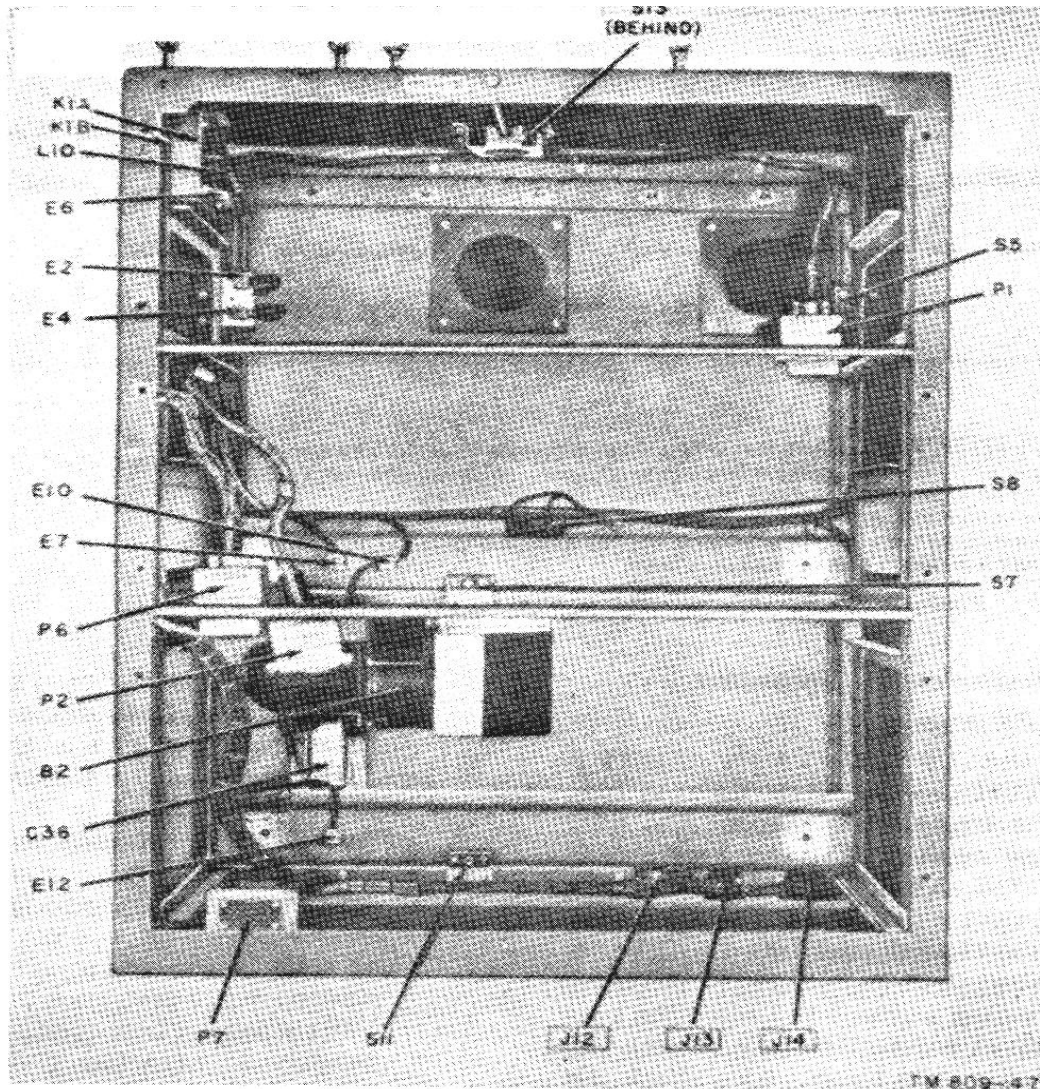

Figure 87. Transmitter housing, decks removed, basic model transmitters.
- (1) The speech amplifier can also be checked by the method of signal substitution. Connect an audio oscillator to pin D of remote control receptacle J12 located at the rear of the transmitter housing (fig. 87). Set the oscillator to a frequency of 1 kilocycle (kc). Turn the 600 OHM LINE GAIN control fully clockwise for maximum gain. Use an input level of .015 volt. If this value is used, the stage-gain chart given in paragraph 36 can be used to check the grid, plate, and output voltages.
- (2) To check the carbon microphone section of the speech amplifier, connect the audio oscillator between pin C and